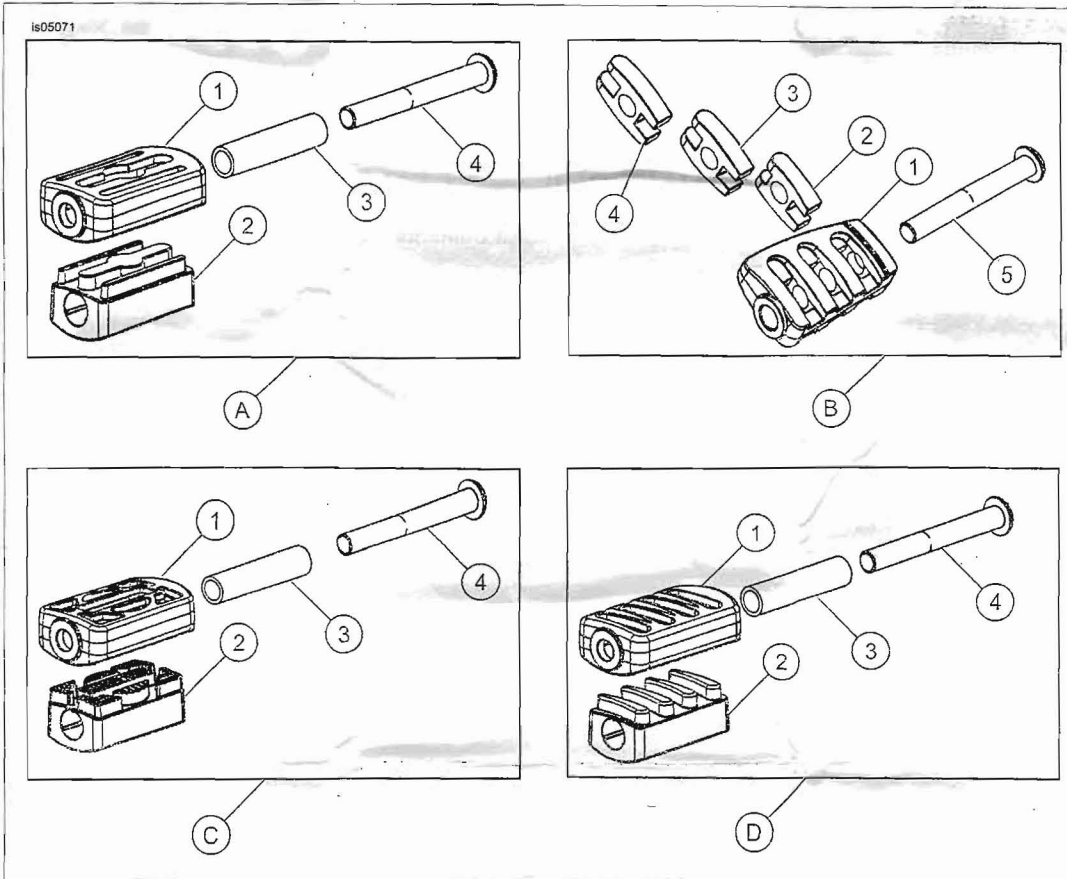

Figure 1. Service Parts: Shifter Peg Kits
See Figure 1 and Table 1.
2. See Figure 1. Insert the screw through the peg, tread, spacer (if required) into the shift lever.